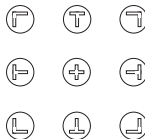

Figure 22: Preset Position Control Keys
- Using the preset position control keys (see Figure 22) on the infra-red remote control transmitter (see Figure 42), which instantly move the position of the zoom to up to nine preset fixed locations²